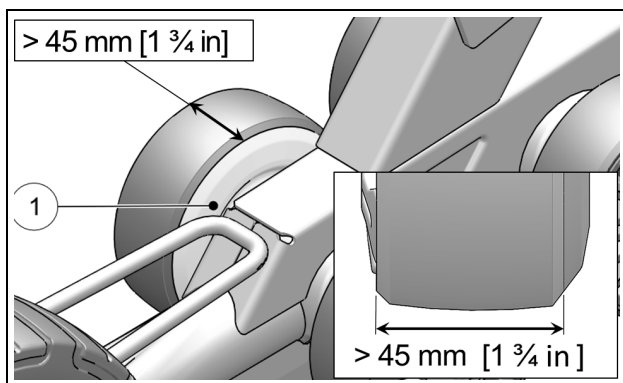

Figure 36
Verify wear on wheels especially on the interior guidance strip. The wheel must be replaced if the inner surface (1) is perforated or when the wheel's rolling band narrows to a width of less than 45 mm. A wheel that is excessively worn will not offer enough support to guide the track. Track guides may also wear prematurely. Figure 36.